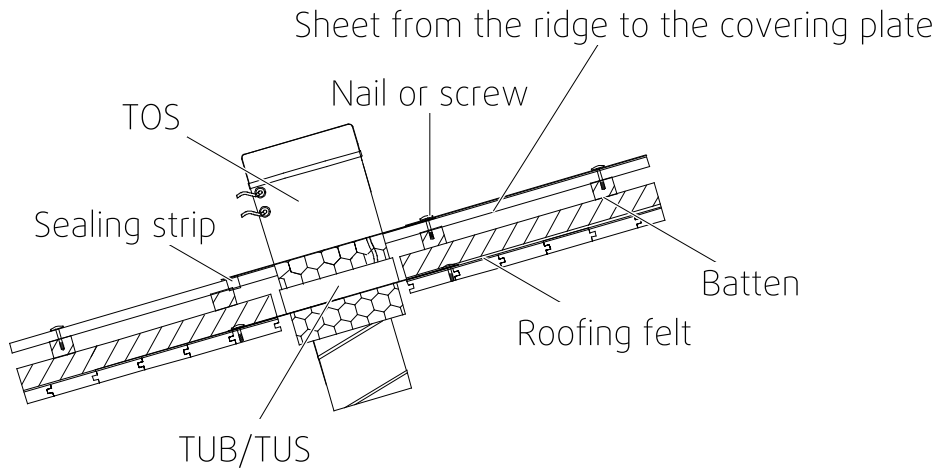

Fig. 7
3. Attach the TOS covering plate to the roof cladding or batten with nails or screws, figure 7.